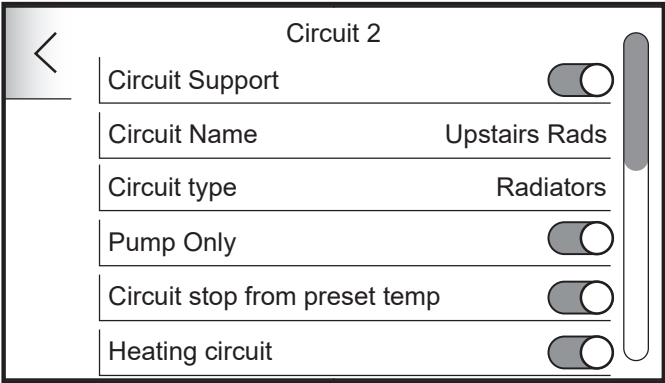

Figure 7-15: Edit Circuit 2 settings
circuit settings. Refer to Figure 7-15.
4. Swiping the touchscreen display scroll down to 'CIRCUIT STOP FROM PRESET TEMP'. Tap the icon to switch on. (Refer to Figure 7-15).
'PUMP ONLY' must to be enabled. Refer to Figure 7-15.